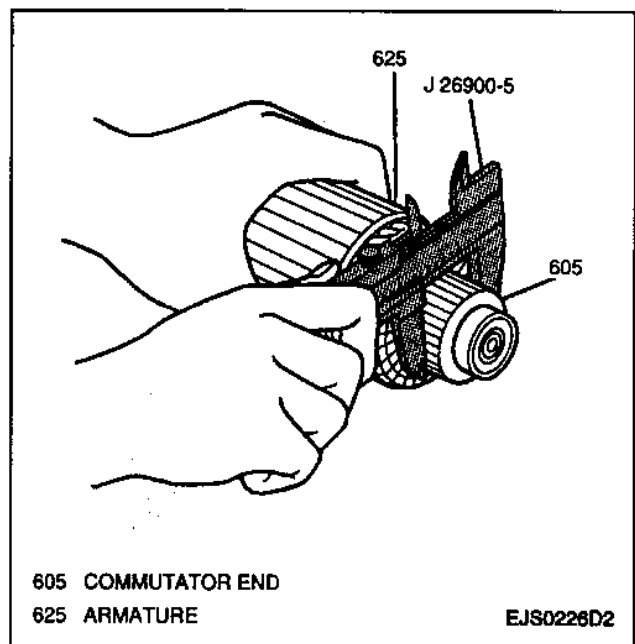

Figure 22—Measuring Commutator Wear
- Commutator wear using a J 26900-5 to measure the outside diameter of the commutator (Figure 22). Standard commutator outside diameter is 29.4 mm (1.157-inches). If the outside diameter is less than 28.8 mm (1.134-inches), replace the armature.